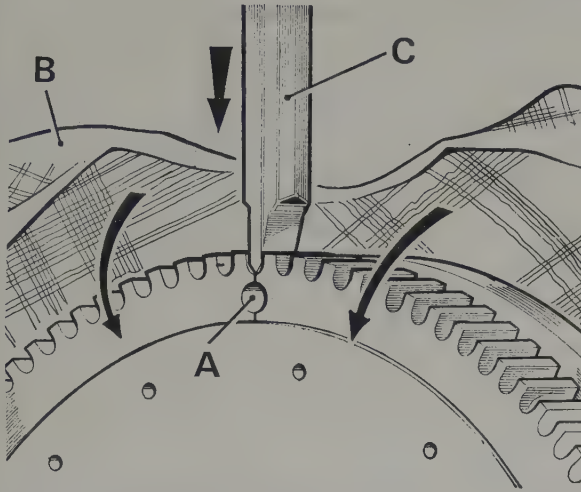

Fig. 1.63. Removing damaged starter ring gear from flywheel
- 1 Where automatic transmission is fitted (model 3500) the starter ring gear is attached to the drive plate and cannot be removed separately. The drive plate must be renewed as an assembly. With the flywheel removed from the engine drill a small hole approximately 0.375 in (10 mm) laterally across the starter ring gear. Take care not to allow the drill to enter or score the flywheel or flange. The hole should be made between the root of any gear teeth. This will weaken the ring gear and facilitate removal by breaking with a cold chisel. (Fig. 1.63).